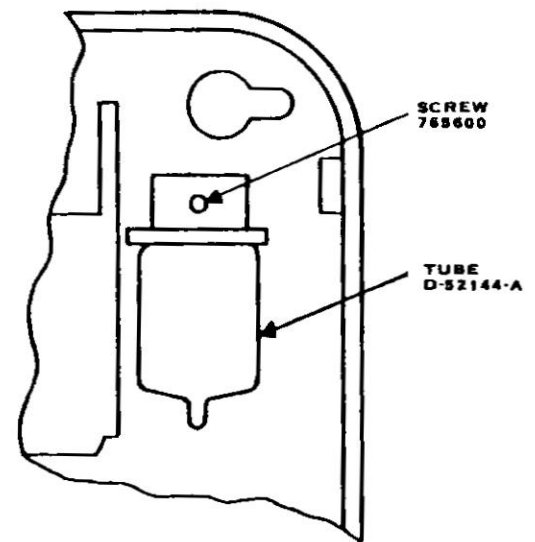

Figure 5. Cold Cathode Tube Mounting.
- (c) For superimposed ringing, mount the cold cathode tube on the baseplate (Figure 5) using the self-tapping screw provided.